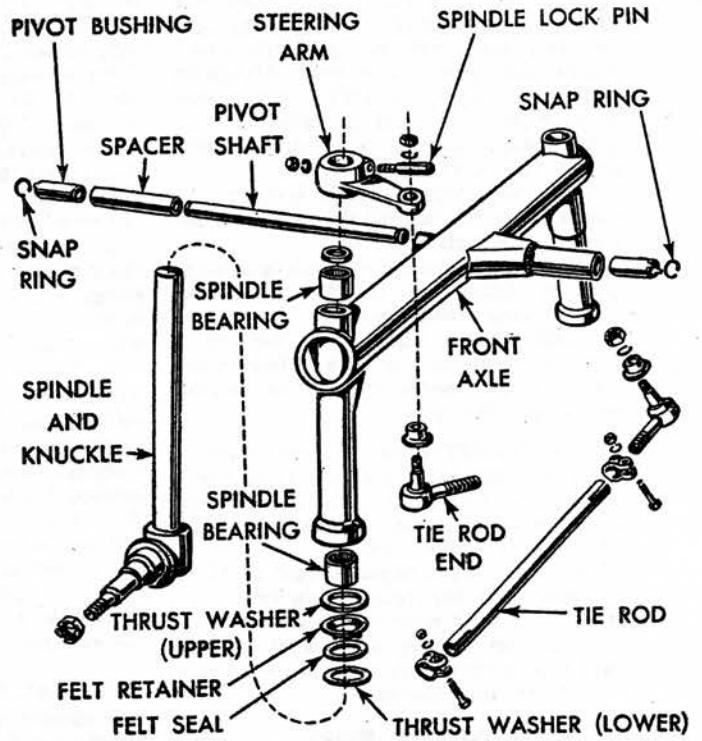

Fig. 53 Front suspension. Model M
**STEERING KNUCKLES**—Fig. 53. To remove a steering knuckle, first take off the wheel and wheel bearings. Drive the lock pin out of the steering arm and take the knuckle out of the axle spindle tube.
**PIVOT PIN**—Fig. 53. To remove the pivot pin, detach the vertical steering shaft from the center steering arm. Release the snap ring from the front end of the pivot shaft and drive the shaft out rearward. After removing the front axle, bushings will be accessible for servicing.